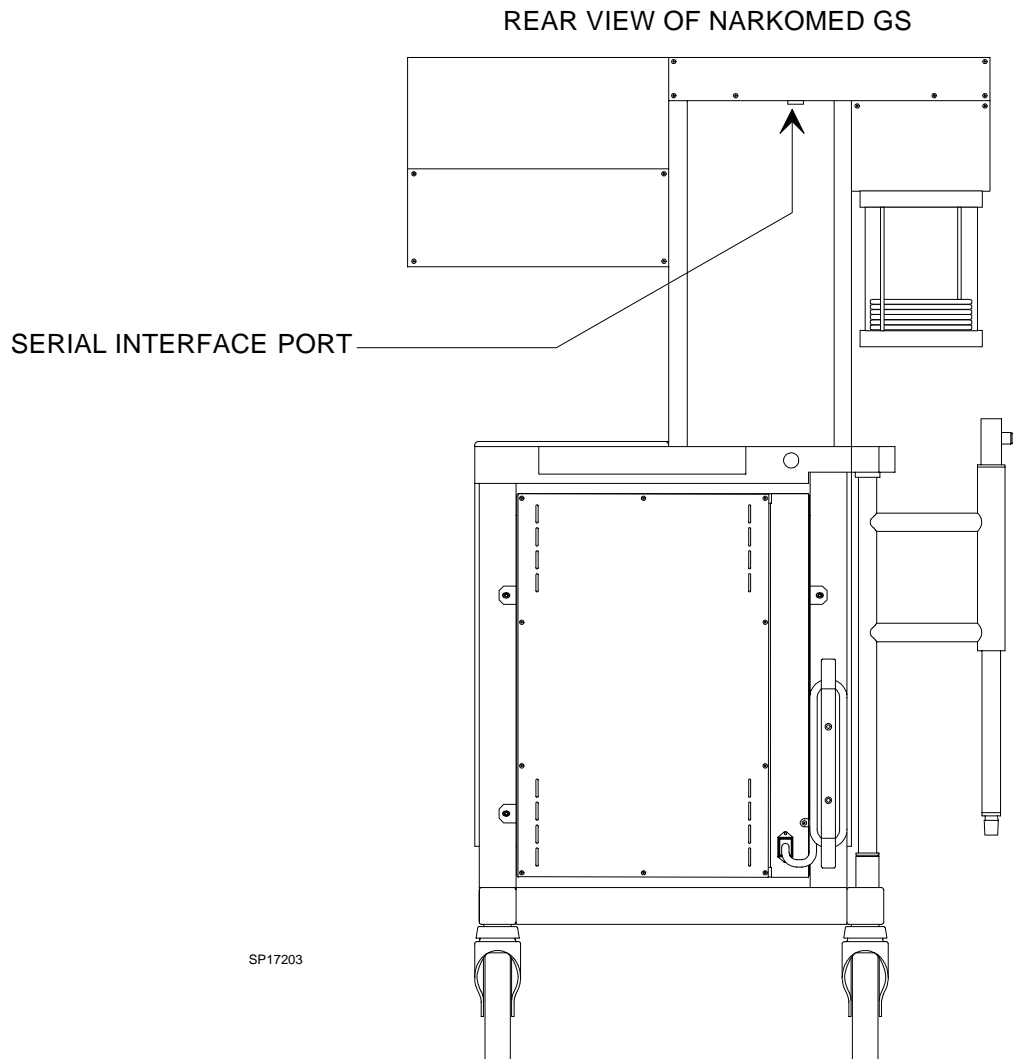

FIGURE 3. Serial Interface Port Location
2. Connect an interface cable (9-pin or 25-pin) to COM 1 on the PC, and connect the other end of the cable to the Narkomed GS serial interface port as shown in Figure 3.